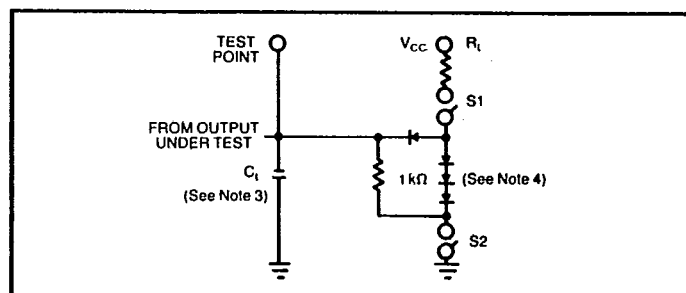

FIGURE 10
1. Standard TTL load circuit used, see Figure 10 (S1 & S2 closed)